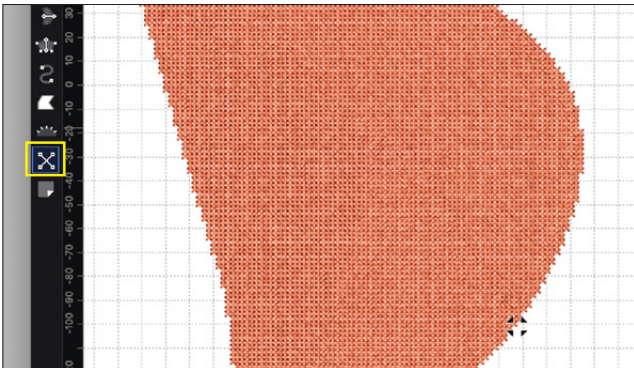

Figure 60
1. Select cross stitch. **See Figure 60.**